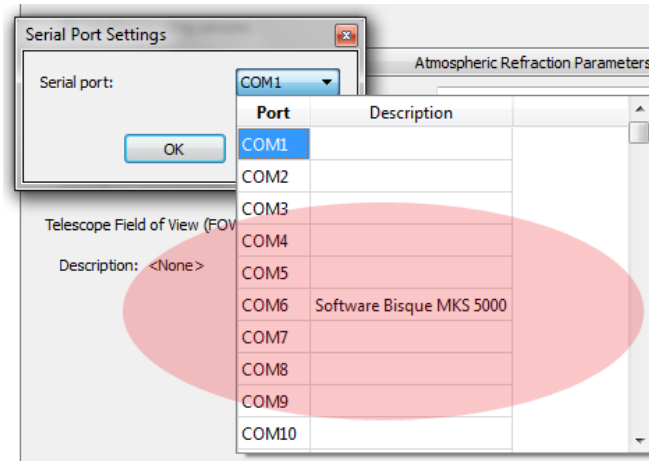

Figure 92: Selecting the COM port from *TheSkyX Professional Edition for Windows*.
5. From *TheSkyX Professional Edition's* mount **Settings** window, select the COM port on the **Telescope > Telescope Setup > Mount Setup pop-up > Settings > Serial Port** list with the description **Software Bisque MKS 5000** (Figure 92).